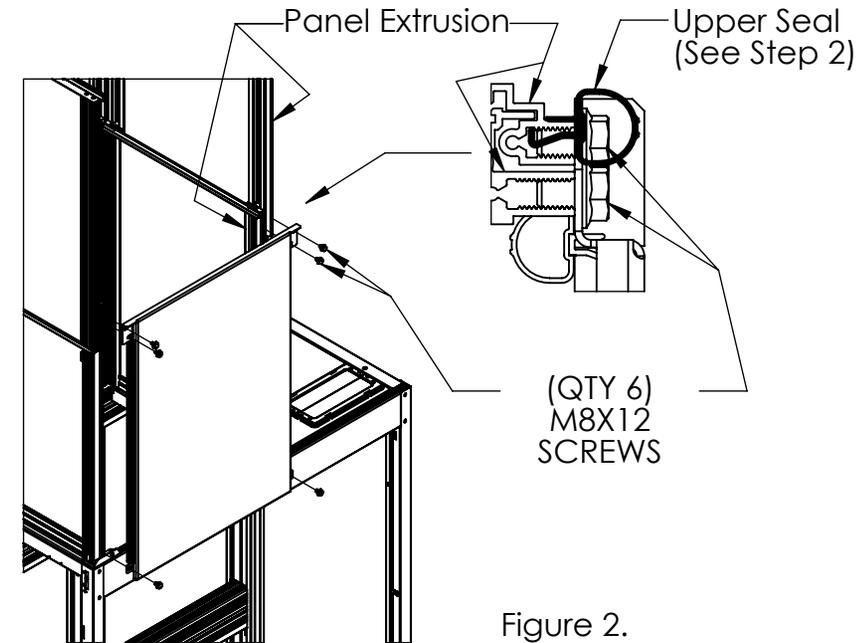

Figure 2.
1. Attach the lower panel (with 6 slots) to the containment extrusion channels using 6 of the provided M8x12 serrated screws as shown in Figure 2.